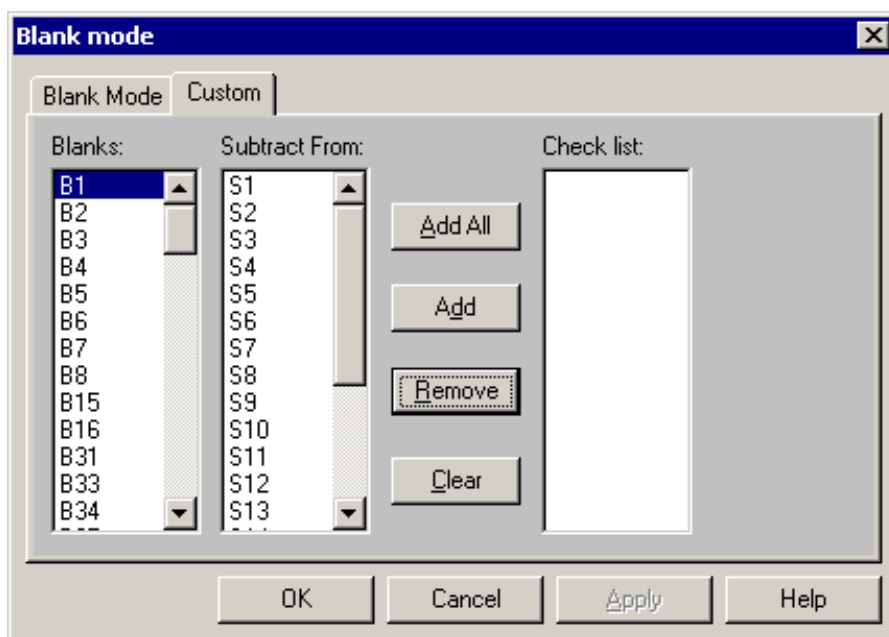

Figure 6-7 The Blank Mode Dialog Box - Custom Tab
- **Custom** - similar to Paired blanking, except that you can assign Blank samples to whichever non-Blank sample you want. To define the Custom blank mode settings, select the Custom radio button and access the **Custom** tab (Figure6-7).